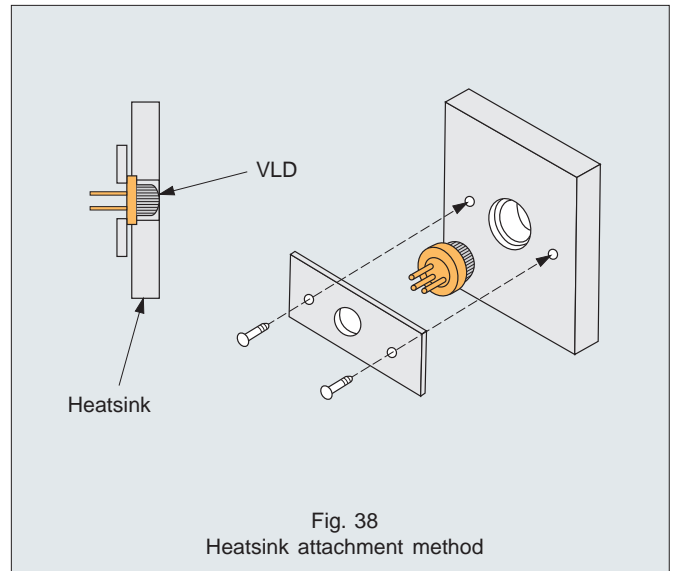

Fig. 38
- To fit the heatsink, press the flange of the package into the heatsink or secure with a firm connection as in Figure 38.